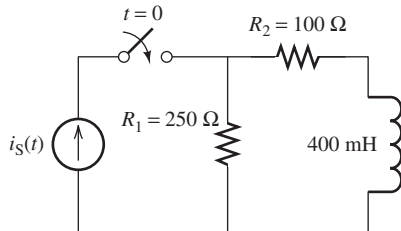

FIGURE P5.53 Circuit for Problem 5.53.
- 5.53 (A) The switch closes at $t = 0$ s. Given that the current source is $i_S(t) = 4\cos(100t)$. Find the voltage across the resistor R_2 for the circuit shown in Figure P5.53.